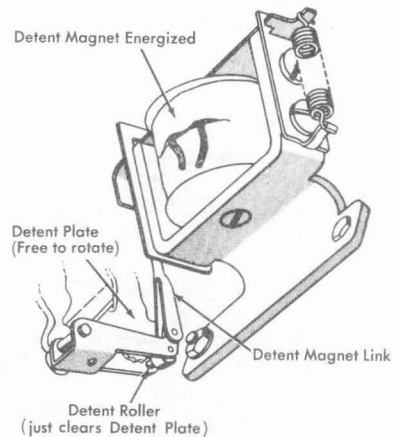

Figure 83. Detent-Magnet-Link Adjustment
1. Adjust the detent magnet link so that the detent roller just clears the detent plate when the magnet armature is in its energized position. The detent plate must be free to rotate without contacting the detent roller when the armature is attracted (Figure 83).